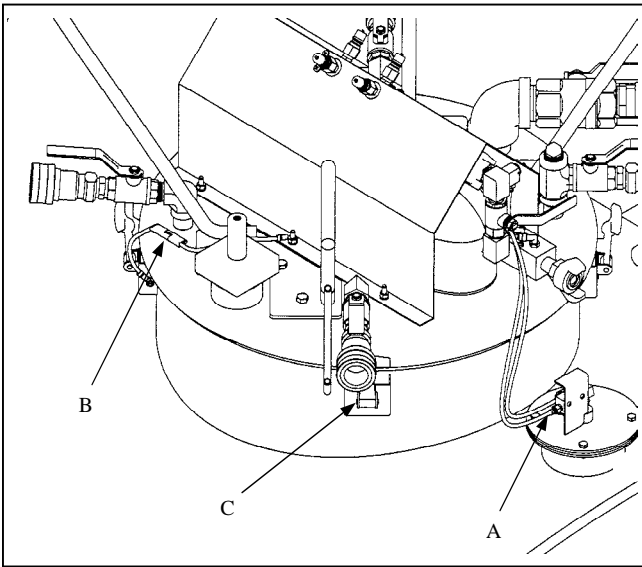

Figure 5-1. Vacuum System Removal
- b. Disconnect Auto Shut-off Assembly control lines (Figure 5-1, reference arrow A)
- c. Disconnect static bond wire (Figure 5-1, reference arrow B).
- d. Unlatch rubber hold downs (Figure 5-1, reference arrow C).
- a. Remove pneumatic tubes from the Vacuum System Assembly by releasing the quick disconnect fittings (see Figure 5-1, reference arrow A).
- b. Remove bolts (11) and nuts (9); four places. Lift Auto Shut-off Assembly vertically to remove from tank, note presence of gasket (10).